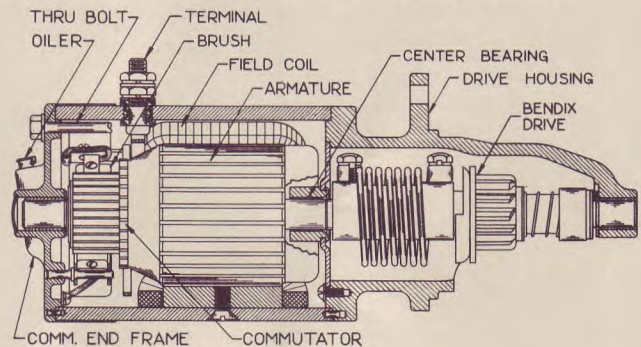

FIGURE 4-3
**Bendix Drive** (Figure 4-3). The pinion of the Bendix drive is mounted on a threaded sleeve which matches internal threads in the pinion. When the armature revolves, carrying the threaded sleeve with it, the inertia of the pinion does not allow it to pick up speed as rapidly as the armature. The result is that the threaded sleeve turns within the pinion, moving the pinion endwise and into mesh with the flywheel teeth so that cranking is accomplished. The Bendix spring takes up the sudden shock of meshing. When the engine begins to operate, the flywheel drives the pinion at a higher